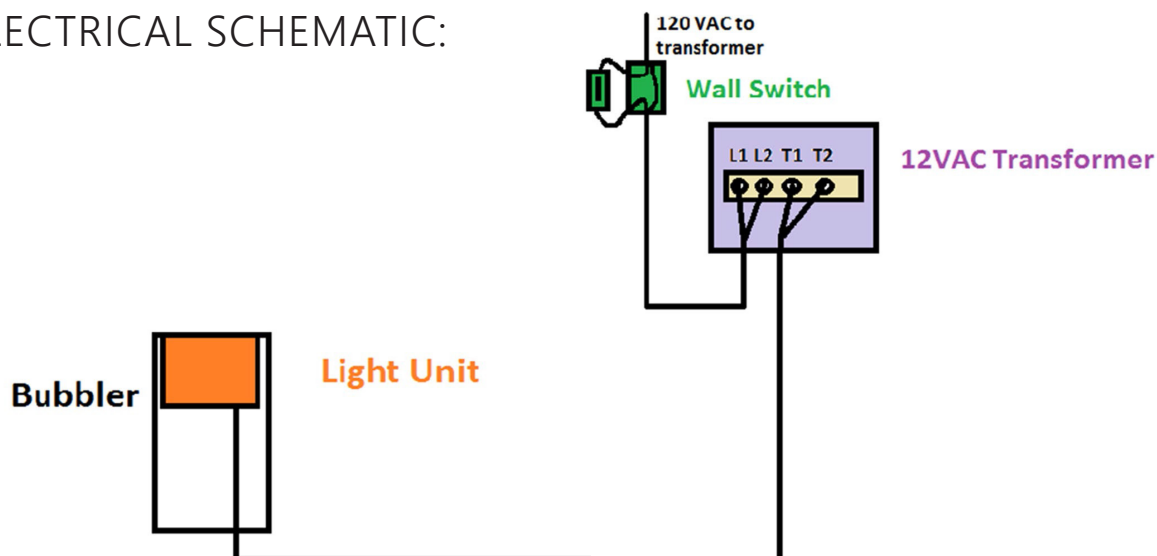

Figure 2: Electrical schematic sample for Bubbler Installation
3.2.1 With all of the different components and applications in the pool and spa industry, proper installation recommendations cannot be taken for granted. This procedure gives specific recommendations to ensure that electrical wiring of your Brilliant Wonders Lighted Bubbler Unit is properly installed. The installer should also consult local inspectors to insure that the unit is installed according to all local building codes and regulations. Refer to the schematic below in Figure 2 for installation of the electrical system.